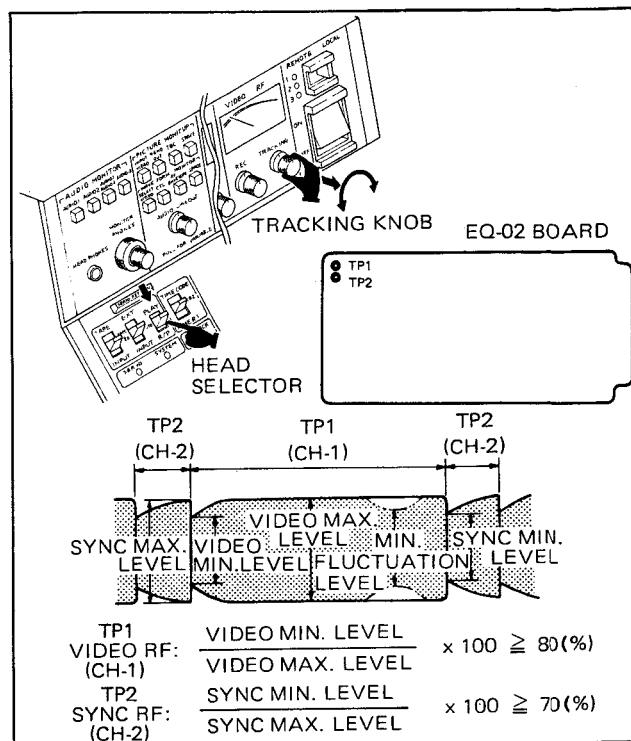

Fig. 3-70-1. Alignment Tape Playback Check
7. Check that the **VIDEO** and **SYNC** RF waveform show the specified value in Fig. 3-70-1.